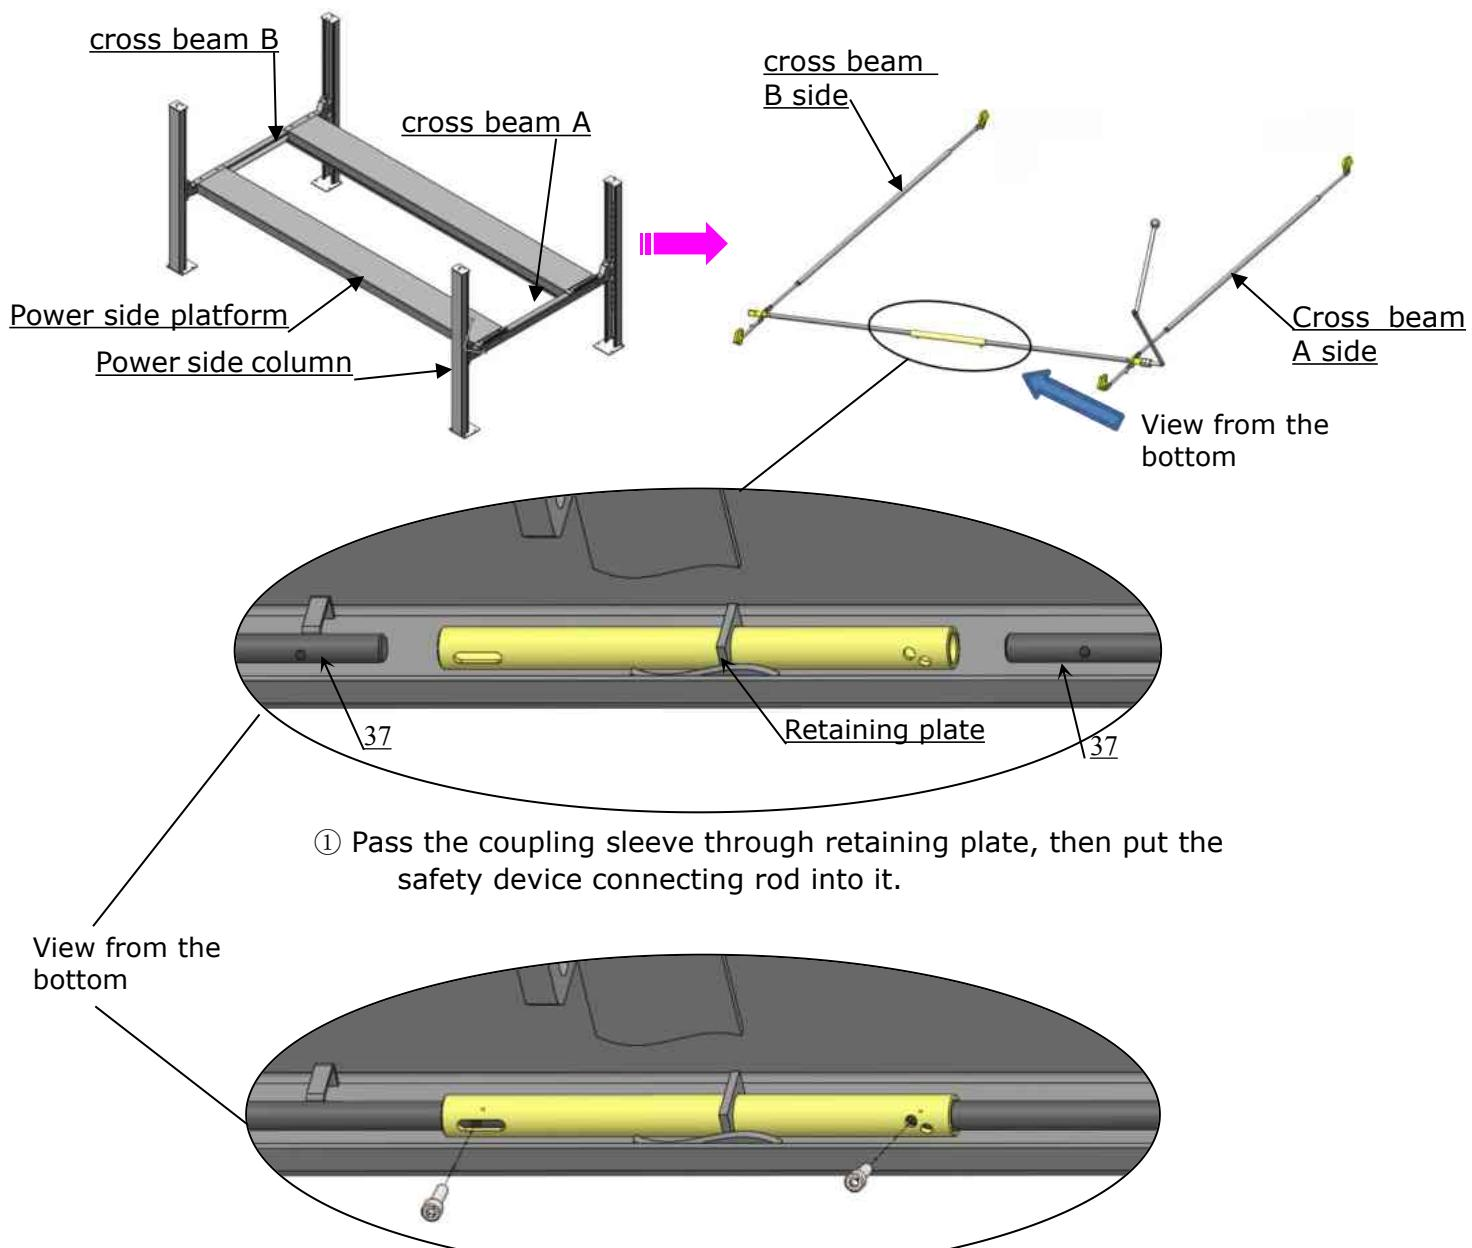

Fig. 26
2.1, Coupling sleeve installation illustration when power side column is in the position as shown below. See fig 26.